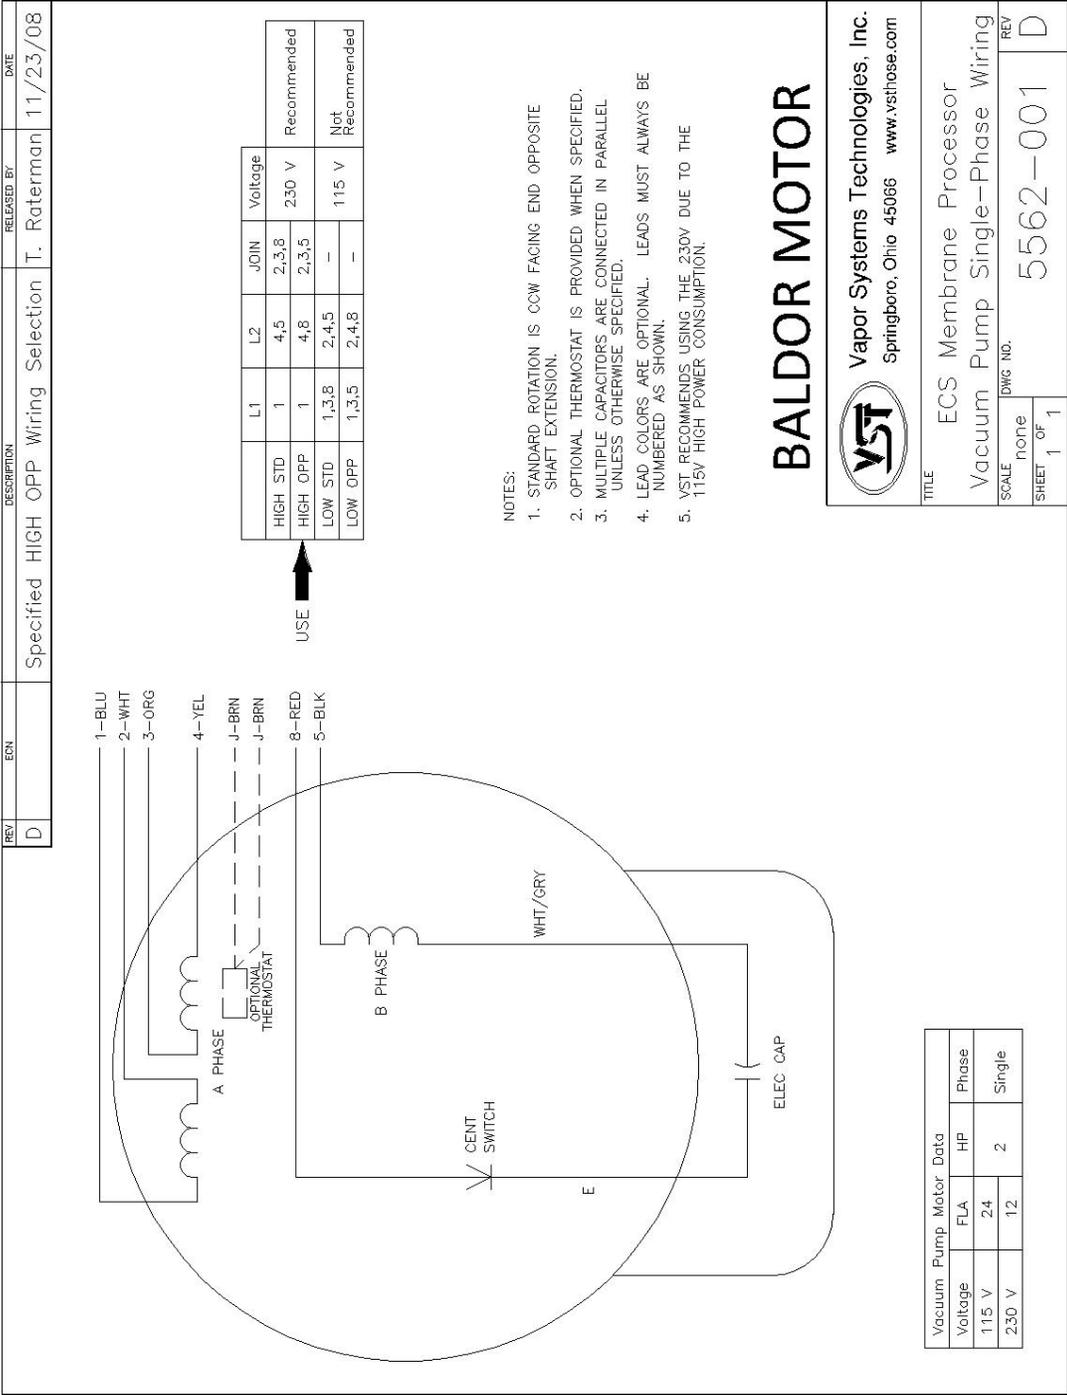

Figure 14: Vacuum Pump: Single-Phase Motor Wiring Diagram
- ▶ See Figure 14 and Figure 16.